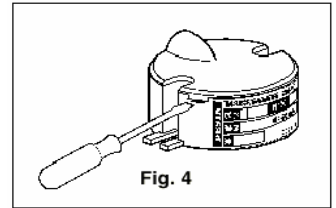

Fig. 4
VERY IMPORTANT: Check that the temperature probe's measurement range matches the range for which the 405000 is configured. In the event that reconfiguration is necessary see Sections 7 and 8. Open the 405000 by removing the lid (Fig. 4) to access the terminal block. Refer to Fig. 5 and the text below for terminal connection information.
- 1) Remove the 405000 cover (Fig. 4), to access the printed circuit.